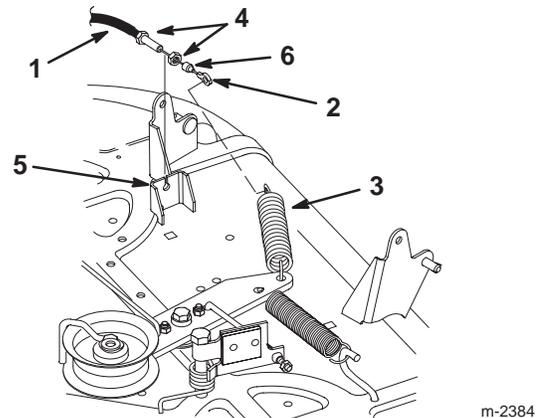

Figure 44
- Remove the rubber wiper and first jam nut. Thread the second jam nut onto the blade control (PTO) cable all the way. Route the cable through the slot in the housing bracket and thread the second jam nut onto the cable (Fig. 44).
- Hook the end of the blade control (PTO) cable onto the idler spring (Fig. 44).